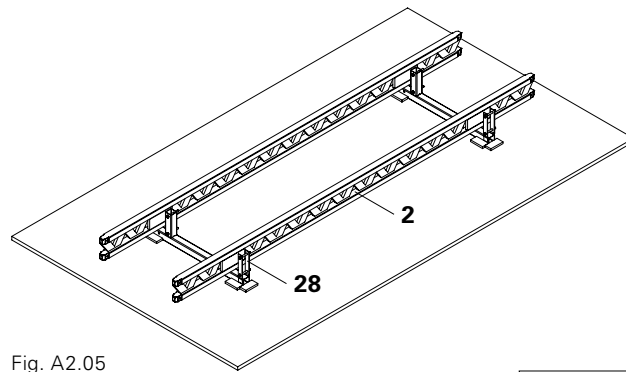

Fig. A2.05
1. Position Platform Beam CB (28) parallel in the bracket spacing on the assembly floor.
2. Place Lattice Girder GT 24 (2) and secure, see A1. (Fig. A2.05)